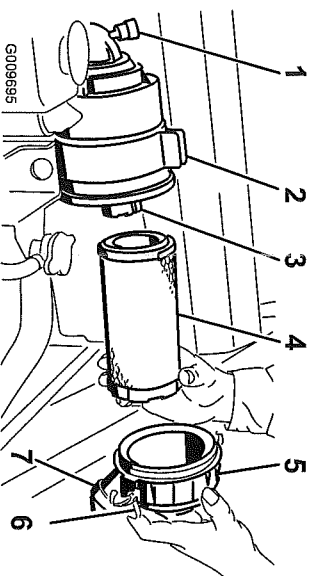

Figure 33
**Important:** Service the air cleaner filter only when the service indicator shows red (Figure 33). Changing the air filter before it is necessary only increases the chance of dirt entering the engine when the filter is removed.
4. Release the latches on the air cleaner and pull the air cleaner cover off of the air cleaner body (Figure 33).
1. Gently slide the primary filter out of the air cleaner body (Figure 33). Avoid knocking the filter into the side of the body.
4. If you are replacing the safety filter, carefully slide the new filter into the filter body (Figure 33).
5. Carefully slide the primary filter over the safety filter (Figure 33). Ensure that it is fully seated by pushing on the outer rim of the filter while installing it.
6. Install the air cleaner cover with the side indicated as UP facing up and secure the latches (Figure 33).